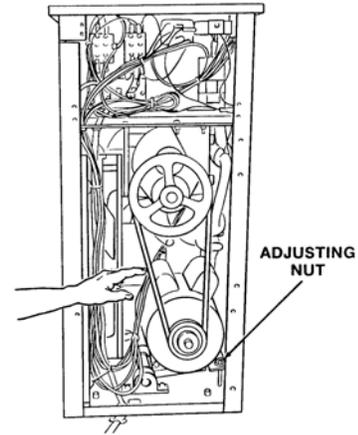

Figure 65. Belt Tension Adjustment
5. Install and adjust belt to the proper tension (Figure 65).